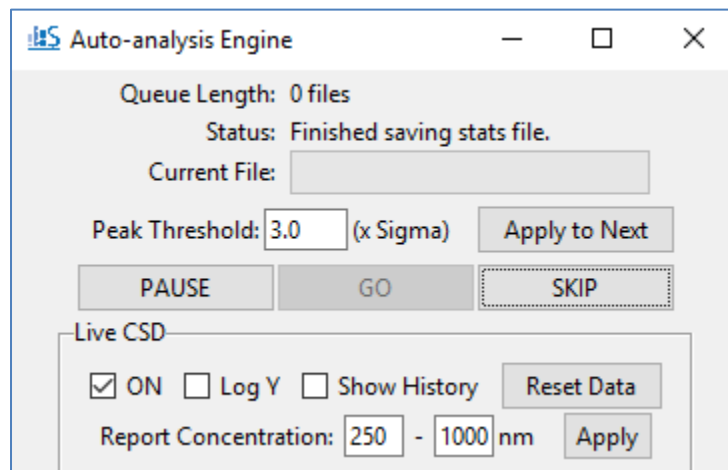

Figure 9. Auto-analysis Engine interface.
- Flagged acquisitions are placed in the Auto-analysis Engine queue for automatic processing into Spectradyne Stats files (Figure 9).
- Display Options (see Figure 9):